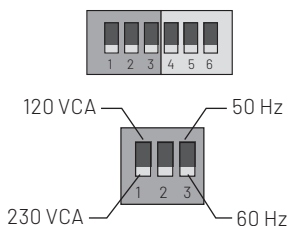

Figura 8: Interruptores DIP
**Interruptor DIP 1: 120/230 VCA:** Consulte la Figura 8.